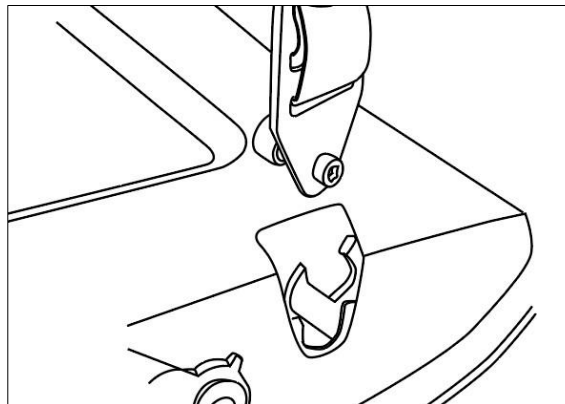

Fig. 2-2
a. Adjust the strap length and position, to allow locking strap buckles to lock into the tailgate (Fig. 2-2). Listen for an audible “click” to ensure the buckle is properly inserted into the tailgate latch on both sides.